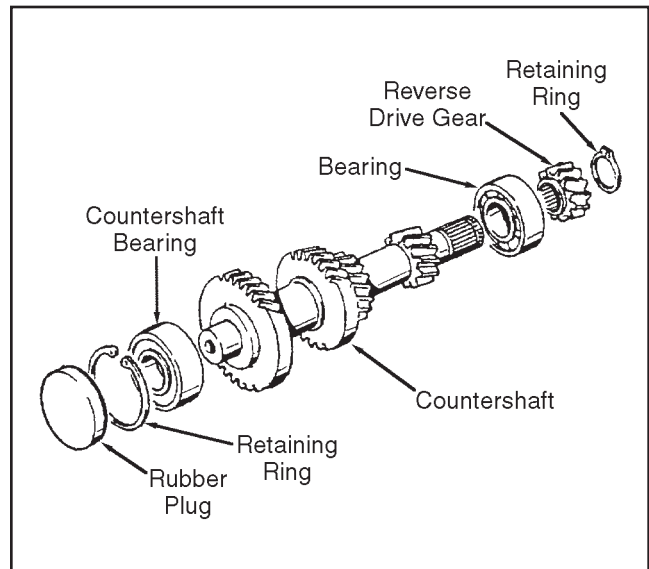

Figure 4G-8. Countershaft — Steps 3 and 4
4. Pull the countershaft to the low gear side (see Figure 4G-5). Remove the bearings and remove the countershaft from the case.